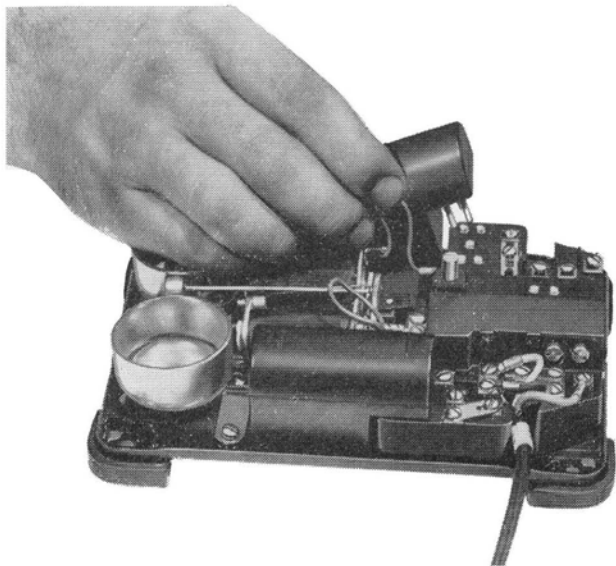

Figure 20 — Replacing Condenser
Step 2—Defective condenser. Replace the condenser with one known to be good (*see figure 20*).
Step 1—Open condenser. Replace with one known to be good (*see figure 20*).